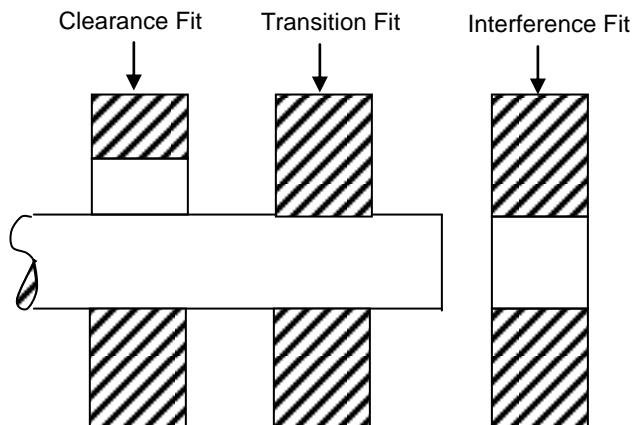

Figure 3.5 : Shaft Basis System
- (ii) Shaft basis system (Figure 3.5)